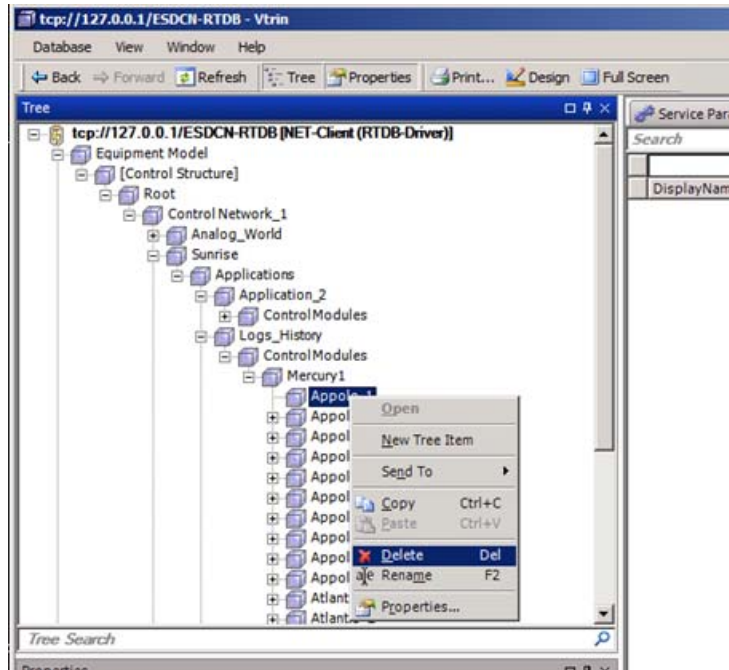

Figure 220. Vtrm Equipment Model list
2. Open the Vtrin, Navigate to the Equipment Model List as shown in Figure 220.
3. Select the Invalid 800xA History log, Right click and select the delete option as shown in Figure 220.